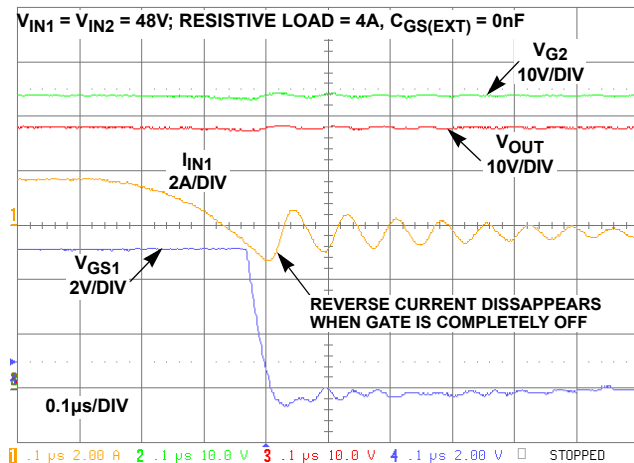

FIGURE 21. FAST SPEED TURN-OFF (MOSFET WITH QTOT = 8.4nc)
tDELAY(HS) is the High Speed Comparator internal worst-case time delay. The setup in Figure 17 can be used to perform the Input dead-short test; a pulse generator is connected between Gate-Source of QSHORT1 (use pulse mode single shot, set the frequency to <10Hz and pulse width of approximately 10ms, tRISE = 1µs). Follow steps 1 through 5 in the two feed parallel operation section. Make sure that both feeds operate in parallel current sharing mode. Proceed with the short test by applying the single pulse to the gate of QSHORT1. Once turned on, QSHORT1 shorts VIN1 causing it to fall quickly (in less than 10µs). Figures 21, 22 and 23 show the results for different combinations of CGS1 and load current. Make sure to connect the VIN1 shorting-MOSFET terminals as close as possible to the VIN-GND (J4 to J6) terminals on the EVAL board to minimize lead impedance and reduce parasitic ringing.